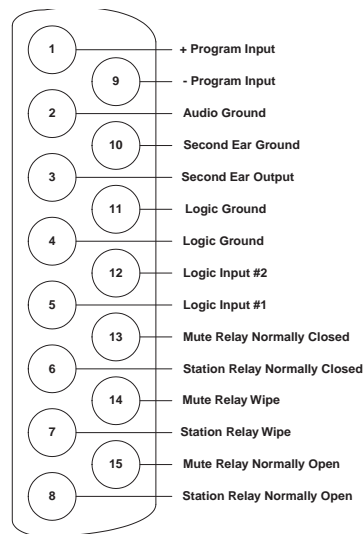

FIGURE S1-2: Miscellaneous Connector Pinout
2. Connect a shield or ground connection if available to the connector’s pin 2 (see Figure S1-2 on page S1-4).
Use normally open type switches to activate the logic inputs. Connect the switches as follows (Figure S1-2 on page S1-4):
The mute relay is activated whenever any talk selector is activated at the station. The mute relay is commonly wired such that whenever it is activated, the volume of the monitor speaker in that room is decreased (muted). See Figure S1-2 on page S1-4.
The relay can activate an external device, such as an applause light in a studio, a cue light, or a security door lock. Any programmable relay in the system can be activated from any station in the system, including a direct-inward-access caller. Figure S1-2 on page S1-4 shows the wiring of the relay contacts to the Miscellaneous connector.
5. Connect the other side of the headset to the Second Ear Output on the “Miscellaneous” Connector (pin 3 and 10). The Second Ear Output provides the program audio only. See Figure S1-2 on page S1-4.